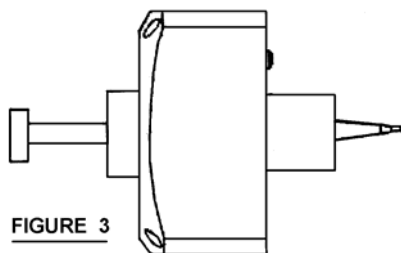

FIGURE 3
- 4.5. Remove needle (16) and re-insert from opposite end (See Figure 3).